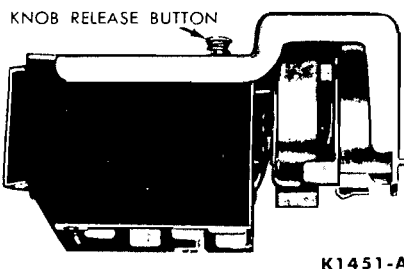

FIG. 1—Headlight Switch
A combination headlight switch and two circuit breakers is used (Fig. 1). The headlight circuit is protected by an 18 ampere circuit breaker for the Mercury Intermediate and Fairlane, a 12 ampere circuit breaker for the Falcon and the Mustang. The tail, parking, license plate light and horn circuits are protected by a 15 ampere circuit breaker.
2. To remove the control knob and shaft assembly, place the knob in the full ON position. Then press the knob release button on the switch assembly (Fig. 1). Pull the knob and shaft out of the switch assembly.
3. To remove the control knob and shaft assembly, place the knob in the full ON position. Then press the knob release button on the switch assembly (Fig. 1). Pull the knob and shaft out of the switch assembly.